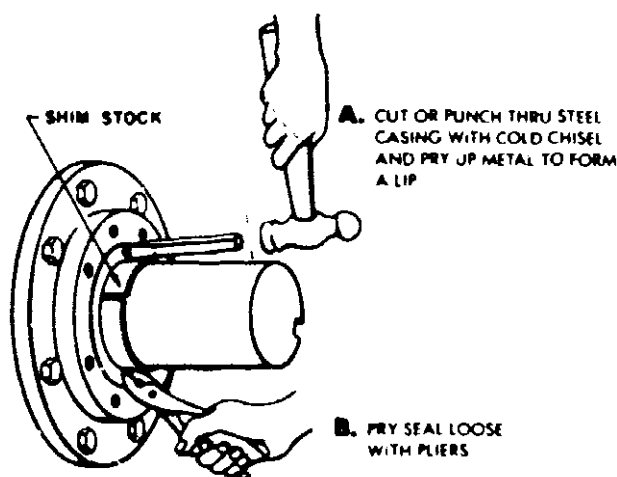

Figure 8
- A. Cut through the steel casing of the seal in two places 180° apart with a small cold chisel and pry up the metal to form a lip. Grasp the lips alternately with pliers and remove seal, Figure 8.